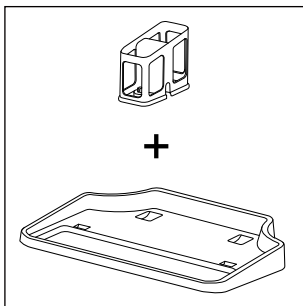
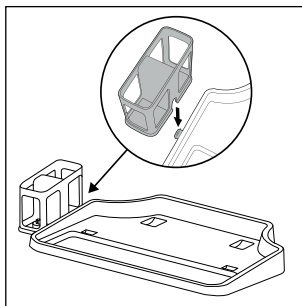

Fig. 4
Fig. 5
- ♦ The parking and cleaning station consists of a storage tray **4** and a rotary brush holder **5** (see fig. 4). To assemble the parking and cleaning station, slide the rotary brush holder **5** sideways into the opening on the storage tray **4**. Slide the rotary brush holder **5** downwards into the opening until it sits firmly in place on the side of the storage tray **4** (see fig. 5).